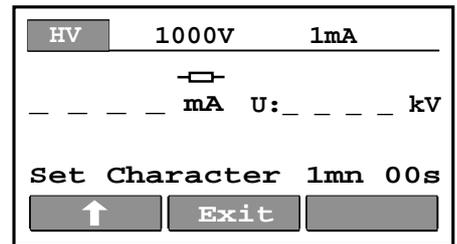

Fig. 5. Menu for selection of test current character
- Character of the displayed test current (fig. 5)